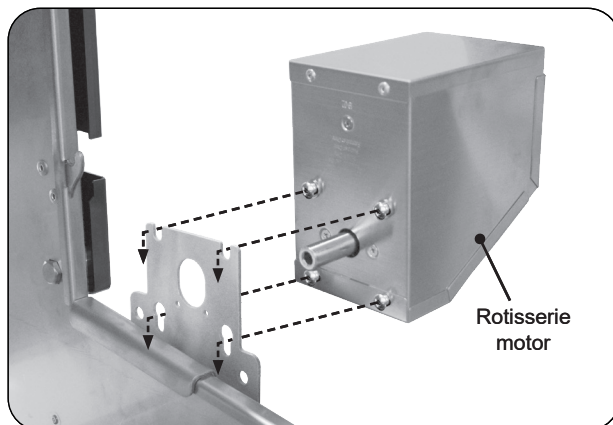

Fig. 34-2 Install rotisserie motor
2. Slide the rotisserie motor fully onto the motor bracket located on the right side of the grill (see Fig. 34-2) and connect it to a power source (do not turn on).